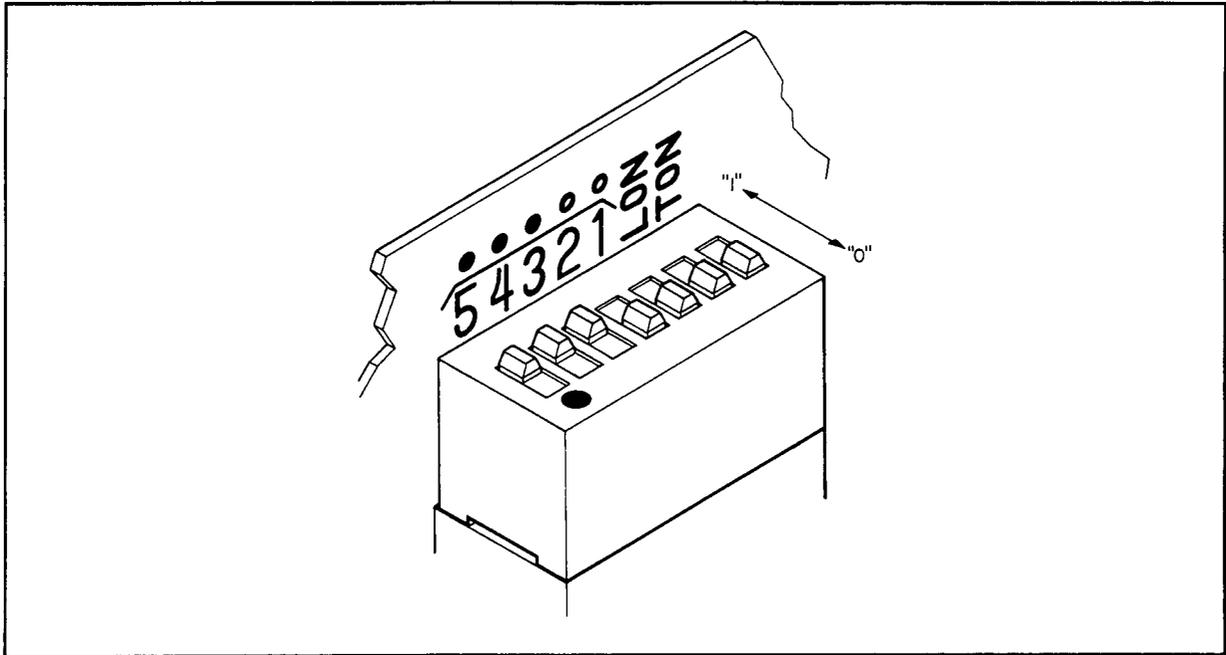

Figure 2-3. HP-IB Address Switch Shown as Set by the Factory.
4. Use a pencil to set the switches to the desired HP-IB address and Talk Only (TON) or Listen Only (LON) condition. The switch is illustrated in Figure 2-3. Facing the board, the left hand switch (marked with a "5") is the most significant address bit (A5 in Table 2-1). Setting a switch toward the printed circuit board places it in its "1" position. If the TON and LON switches are both set to "1", the Talk Only setting will override. If the address switches and the TON switch are all set to "1", the Audio Analyzer will output one byte (the status byte) each measurement cycle. (Setting all switches to "1" defeats HP-IB operation.)